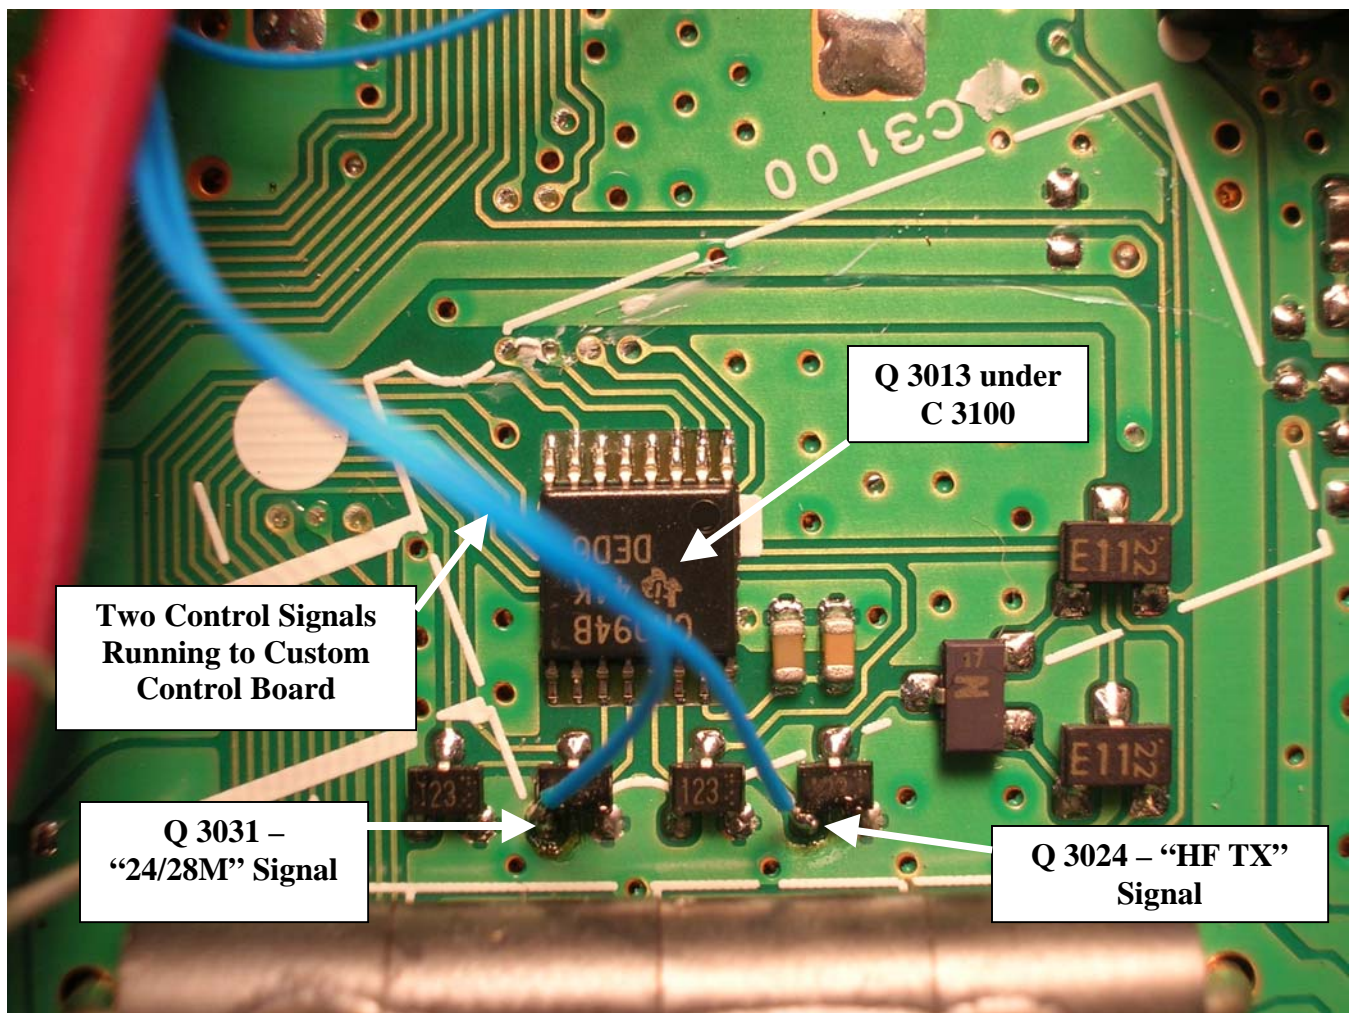

Figure 4 - FT-897 Power Amplifier Board, Access To Control Signals
When the user selects the 28 MHz band the FT-897's PA board generates an internal signal that is used by the radio to activate the appropriate transmit and receive filters. This specific signal is called "24/28M" in the radio's documentation and it is an active high (5 vdc) signal. The modification requires that a small wire be soldered onto the PA PCB to access this signal (see Figure 4). That wire is then routed to the custom control circuit where the signal is buffered and then routed to the modified A/B battery select switch.
- On page 59 of the Yaesu FT-897 Technical Supplement is the schematic for the PA board. At the top left, find IC Q-3013, a 4094 serial-to-parallel converter. Pin 12 of this device is where the "24/28M" control signal originates while Pin 14 is the "HF TX" control signal. I found it somewhat easier to grab these two signals on Q-3031 and Q-3024 as shown in Figure 4. Carefully route these two control signals to the custom control board. For my radio I used tie-wrap wire grouped and sheathed in small shrink-wrap tubing. While I was there, I also grabbed the +5 vdc on pin 14 of Q-3013 to power the custom control board. If you wanted to you could build a separate 5 vdc regulator on the control board and power it directly with 13.8 vdc.